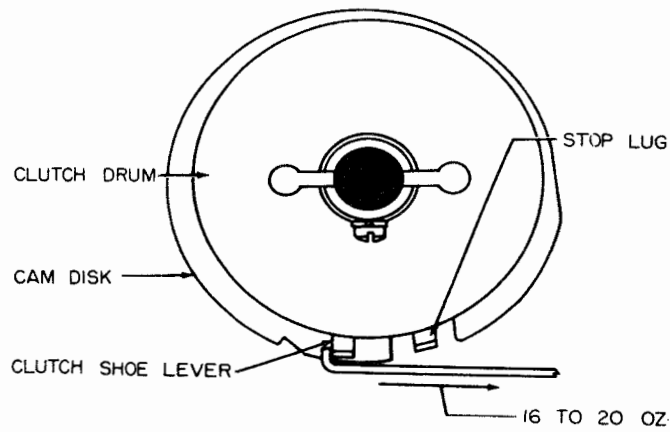

Figure 8
2.16 Clutch-shoe Lever Spring: With the clutch engaged and the clutch disc held to prevent it from turning, it shall require minimum 16 ounces, maximum 20 ounces to move the shoe lever in contact with the stop lug. (See Figure 8.)